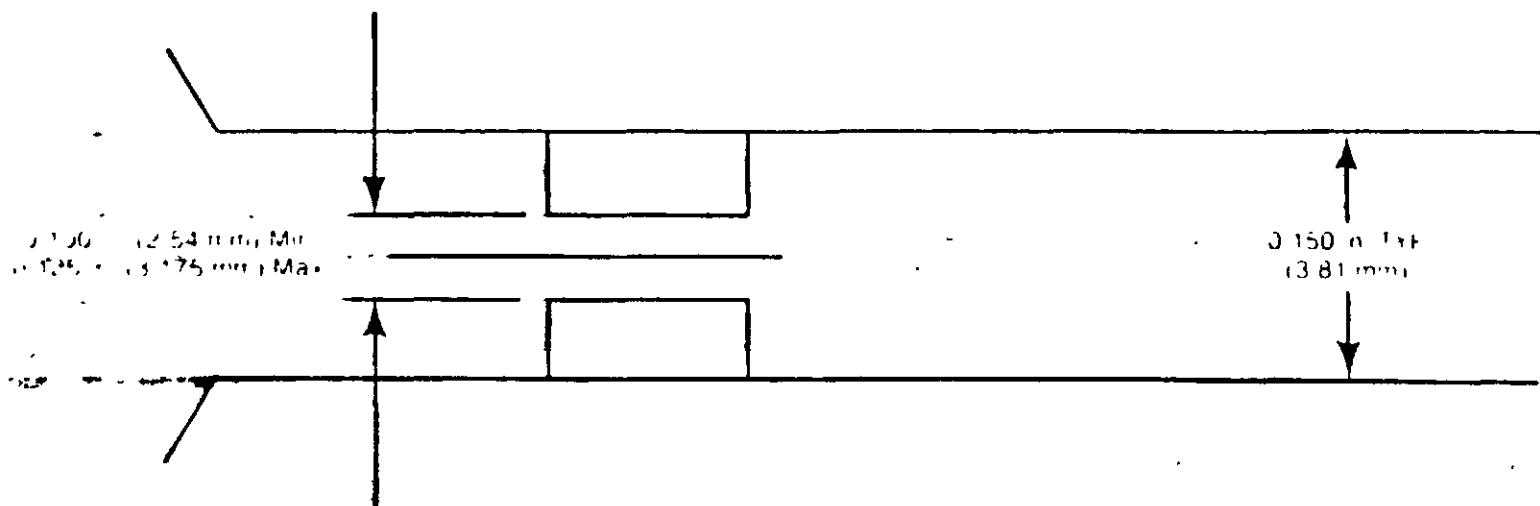

Figure 2-23. Head Unload Clearance
6. Position pulley allowing clearance of 0.039 inch, ± 0.010 inch between shoulder of motor mounting screws and pulley (Figure 2-23).